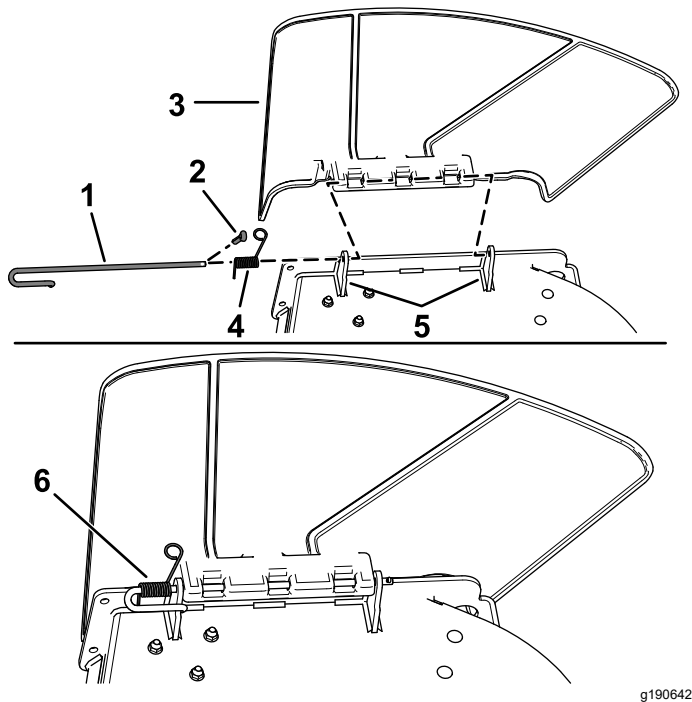

Рисунок 11
1. Remove the cotter pin (Рисунок 11).
2. Disengage the spring from the notch in the deflector bracket and slide the rod out of the welded deck brackets, spring, and discharge deflector (Рисунок 11).